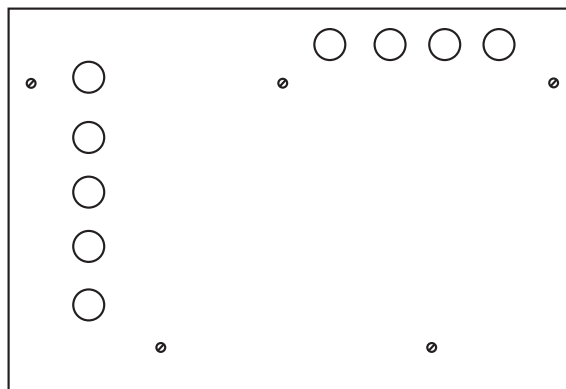

Figure 4-3: Back of analyzer (typical)
5. Connect the appropriate 1/8-inch o.d. tubing to the external ZERO, SPAN, and SAMPLE gas inlet ports on the back of the case (Figure 4-3).